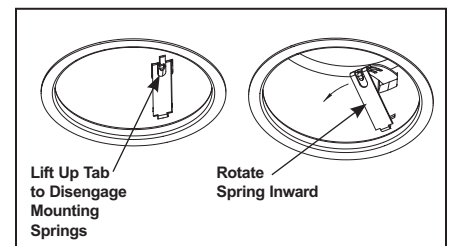

Figure 8
Step 3. Remove tape that seals the three springs. Disengage remodel springs and remove housing from ceiling. (Fig. 8)